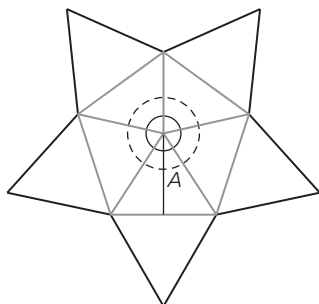

Figure A.11
Step 5: The apothem of the pentagon is the height of the isosceles triangles that form the pentagon. Trigonometry from Section 4.2 is needed to calculate the length of the apothem, A . The pentagon comprises five isosceles triangles as shown in Figure A.11.